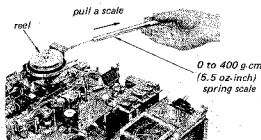

Fig. 3-12. FWD and REV back tension torque adjustment
2. Measure the back tensions by pulling the 0 to 400 g (14 oz) spring scale at approximately 9.5 cm/s (3-3/4 ips) speed in FWD [REV] mode. See Fig. 3-12. It should be 200 to 240 g·cm (2.78 to 3.32 oz·inch).
2. Measure the back tension by pulling the 0 to 400 g (14 oz) spring scale at approximately 9.5 cm/s (3-3/4 ips) speed in FF [REW] mode. See Fig. 3-12. It should be 60 to 80 g.cm (0.83 to 1.1 oz inch).